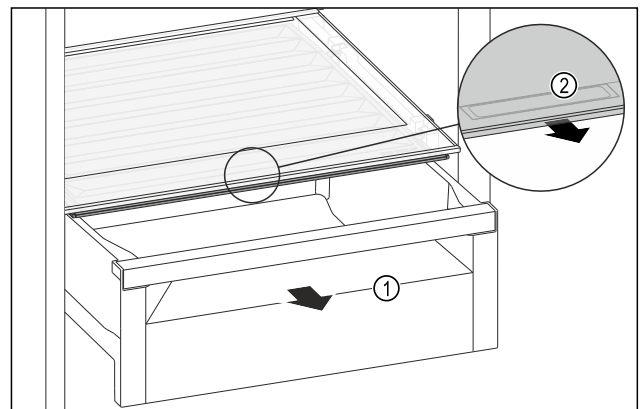

Fig. 142
- Pull out the drawer Fig. 142 (1).
- Grip the handle recess Fig. 142 (2) on the lid while pulling the lid forward at the same time.